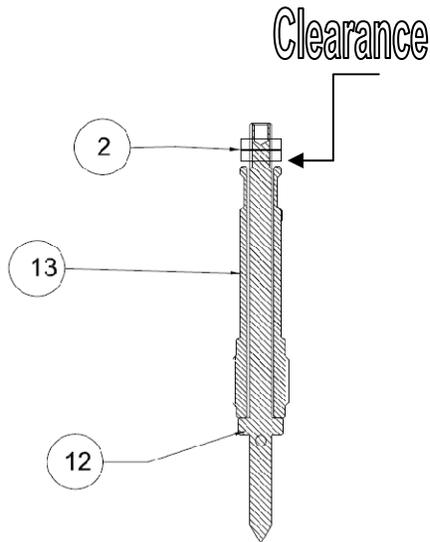

Fig. 1.1
- There is a clearance required between the nut (2) and the handle (13). This clearance will allow the stem and the handle rotating independently. Therefore, the stem will not rotate when the handle is turned.
- To set the clearance for the stem (12) and handle (13): Screw the first hex nut (2) until touching the top of the handle; then back up about 0.5 -1 turn and lock it in that position with the 2nd hex nut.
- Apply some grease on the external thread of the handle (13), and install the stem assembly (Fig. 1.1) into the bonnet (12).